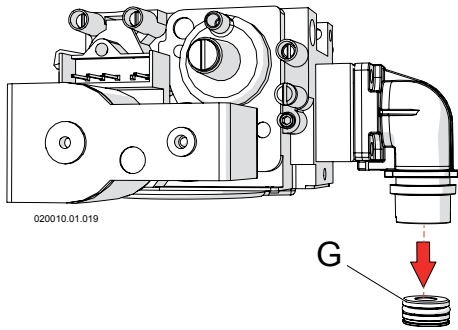

Figure 14-5 Gas orifice
- 7 - replace orifice "G" of Figure 14-5, for the correct one for type of gas used. Verify that the stamping on the orifice matches the Figure 14-7;